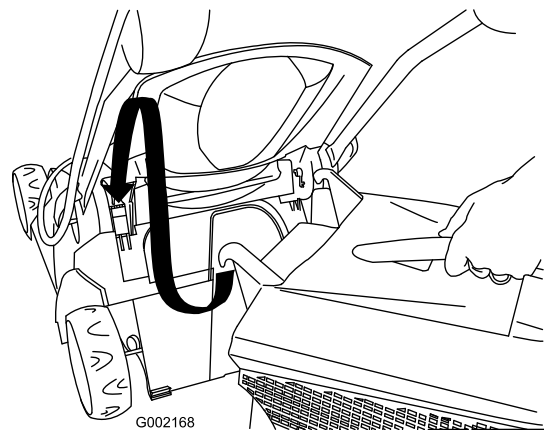

Figure 20
- Lift up the rear door and install the grass box on the mower (Figure 20).